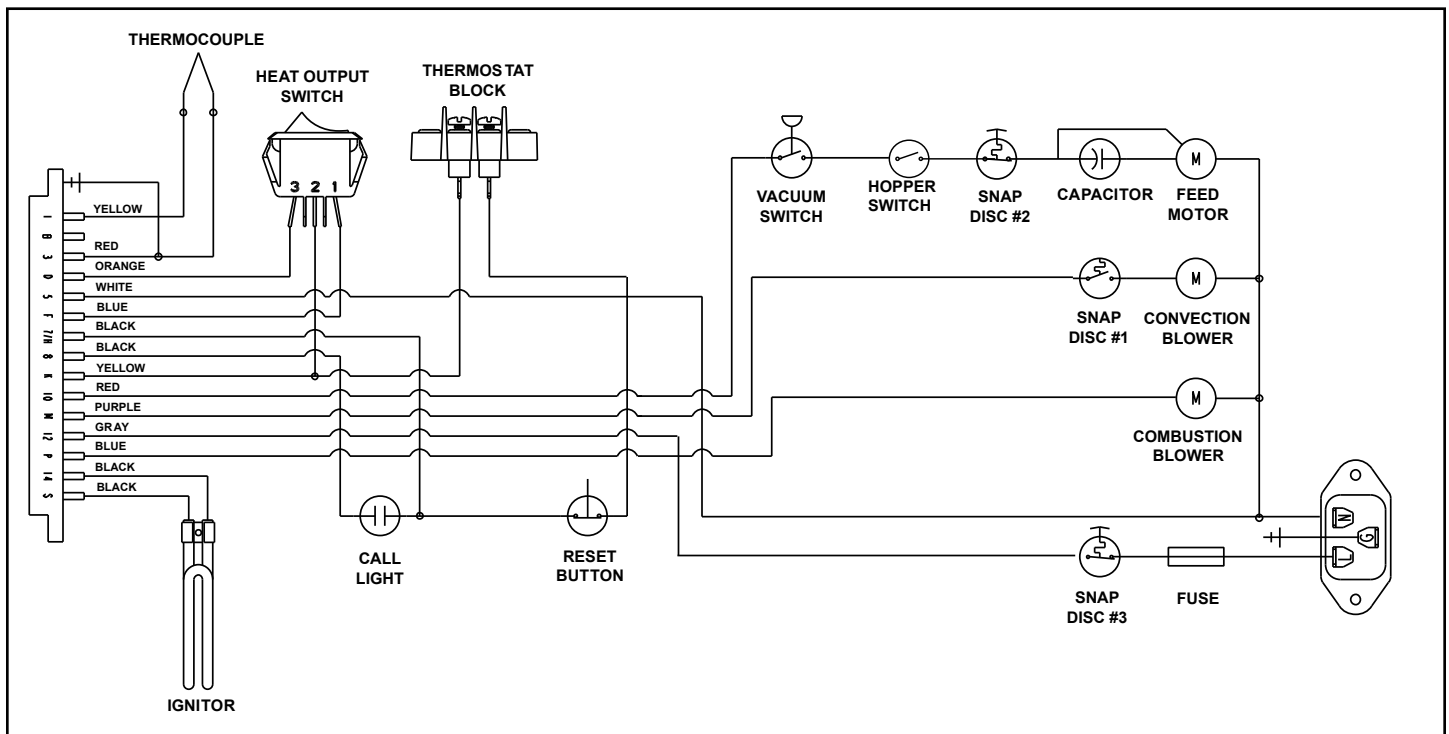

Figure 29.1
21. **Wiring Schematic: See Figure 29.1 below**